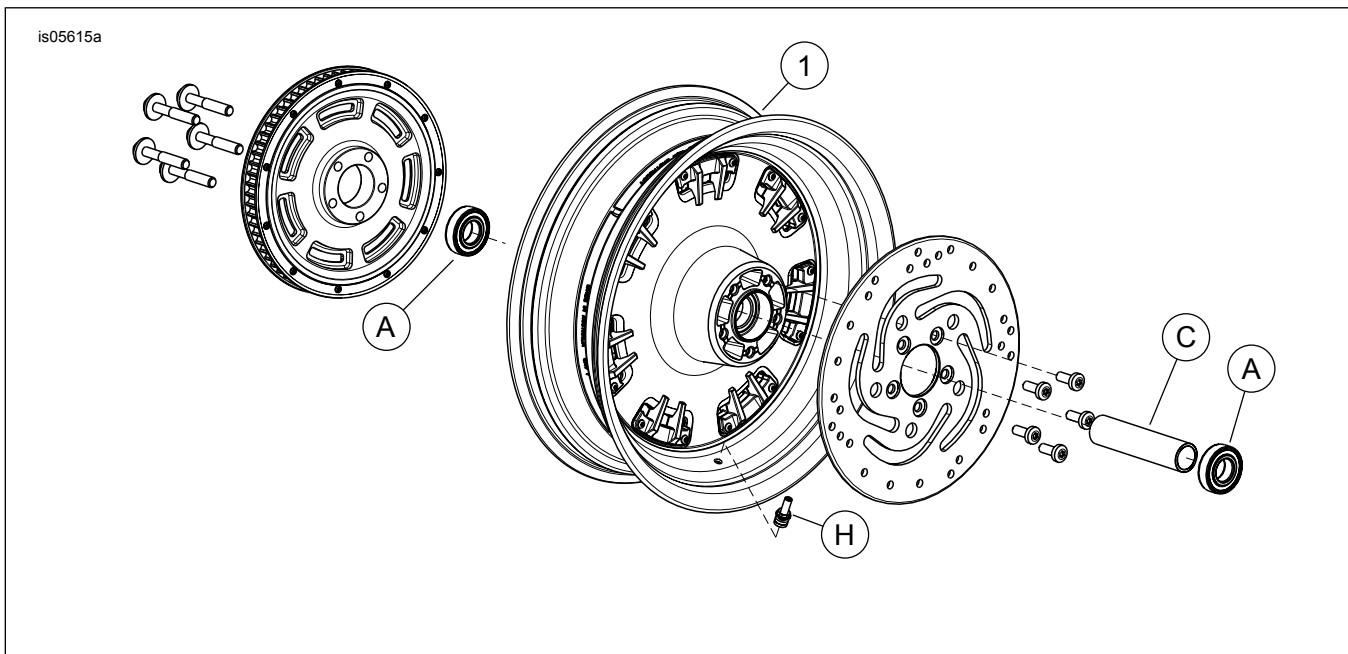

Figure 1. Service Parts: Rear Fang Wheel
- See Figure 1. Install valve stem assembly (H) on wheel. Refer to service manual.